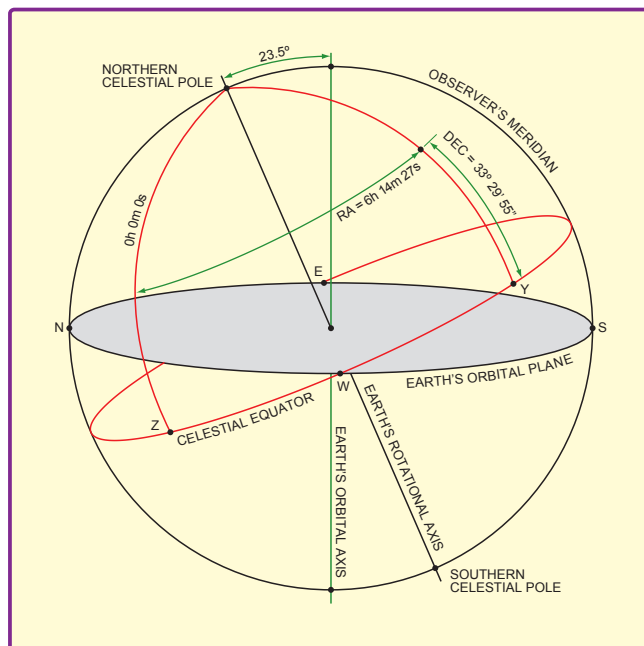

Fig.10. Celestial coordinate 'globe'
Now further picture that this distant surface is fixed in position while we, the earthbound observer, reside at its centre, rotating about our polar axis. Over and above this, now consider that our earth's polar axis is inclined at 23.5 degrees to the plane of our orbit. Hopefully, Fig.10 will help.
Visualise the earth's equator projected out on to the surface of our imaginary sphere and this line will become the celestial equator in Fig.10. How much we observe above or below the celestial equator relates to our latitude, the date and the time.
The elevation of a star, Point X in Fig.10, is called declination (DEC) and has a positive value above the celestial equator and a negative value below. Much like the Greenwich meridian was chosen to represent our zero reference for longitude, the first point of constellation Aries (point Z) was selected as the celestial zero reference and is represented in Fig.10 by the meridian line from point Z to the northern celestial pole. The angle between the celestial zero meridian and the meridian of star X is called right ascension (RA). RA is measured in hours, minutes and seconds (0 to 23:59:59), from the first point of Aries eastwards along the celestial equator. DEC is measured in